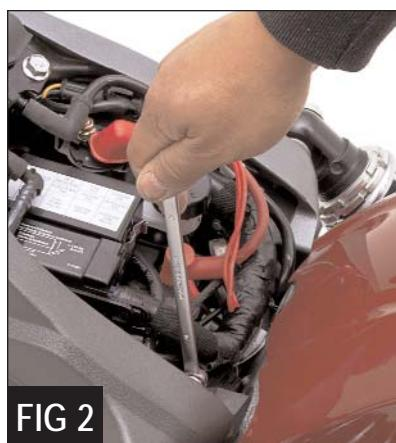

FIG 5
6. Install Corbin's seat mounting bracket where you disconnected the negative wire. Then re-attach the battery negative, then the Corbin ground wire and secure with the provided m6 flat washer and m6 hex head bolt (*Figure 5*).